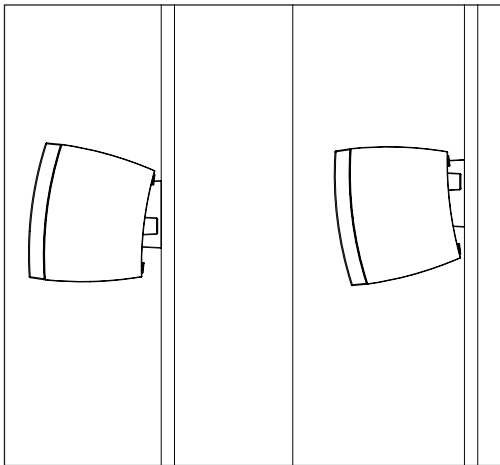

Fig. 2
For the most accurate timbral balance, place your front speakers so that their high-frequency drivers are approximately ear level (see positioning ① and ②). Measure the distance from the listening area to your speakers. For optimal imaging, place the speakers approximately 3/4 of that distance from each other. MLT-2 speakers can be placed on a shelf, or wall mounted (Fig. 2 on page 7)
NOTE: When mounting the MLT-2 center channel, if you run speaker cable down the face of the wall, apply self-adhesive bumper pads (included) to rear corners of enclosure to accommodate the cable (see Figure 2).